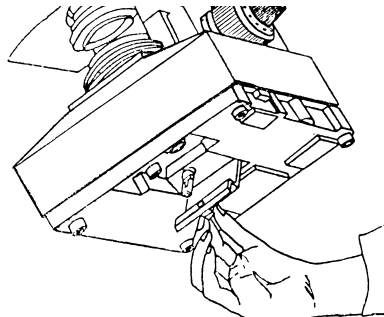

Figure 4
1. Carefully lay the microscope back on its side so that the stand column (5) is flush against a flat surface.
2. On the bottom of the microscope, locate and unscrew the knurled bolt that holds the lightbulb compartment closed (see figure 4).